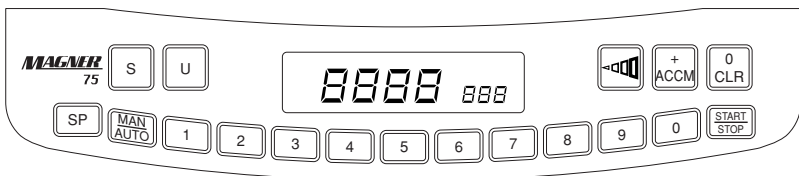

Figure 9 : Keyboard and display Model 75SU
- B. Fan each group of notes before counting as shown in Figure 9, and remove the following: